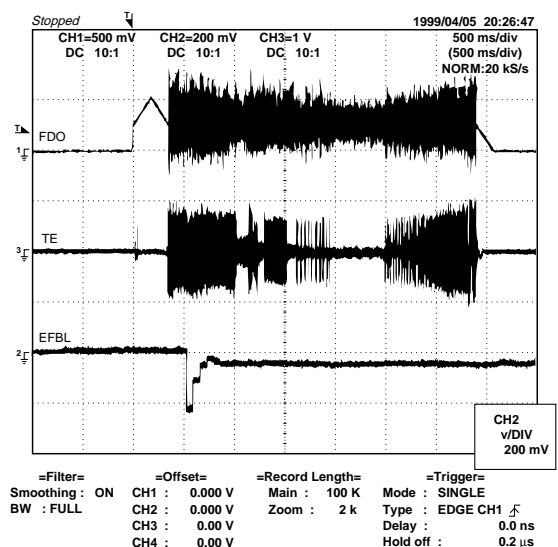

Figure 11-2
- (1) Offset adjustment (The offset voltage between the head amplifier output and the VREF reference voltage is compensated inside the IC.)
- (2) Tracking balance adjustment (waveform drawing Fig. 11-2 EFBL)
- (3) Gain adjustment (The gain is compensated inside the IC so that the loop gain at the gain crossover frequency will be 0 dB.)